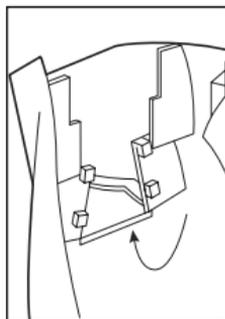

Figure 3
4. To refit the filter baffle (See Figure 3): Lower the baffle into the body of the kettle, on the handle side of the baffle mounts. Bring it forward to the spout side of the baffle mounts. Raise it until the bottom baffle clips engage with the bottoms of the baffle mounts. Squeeze the top baffle clips over the tops of the baffle mounts.